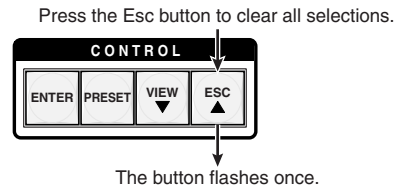

Figure 3-21 — Clear all selections
1. Press and release the Esc button (figure 3-21).